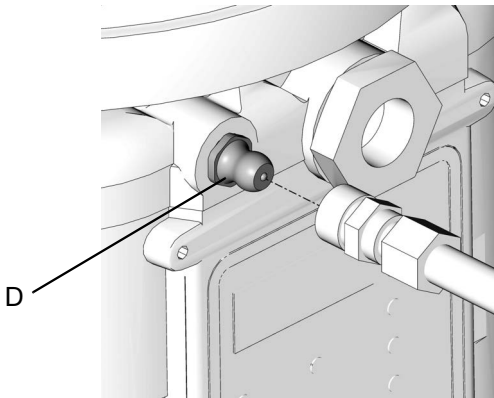

FIG. 12
- Always clean inlet fitting (D) (FIG. 12) with a clean dry cloth prior to filling reservoir. Dirt and/or debris can damage pump and/or lubrication system.